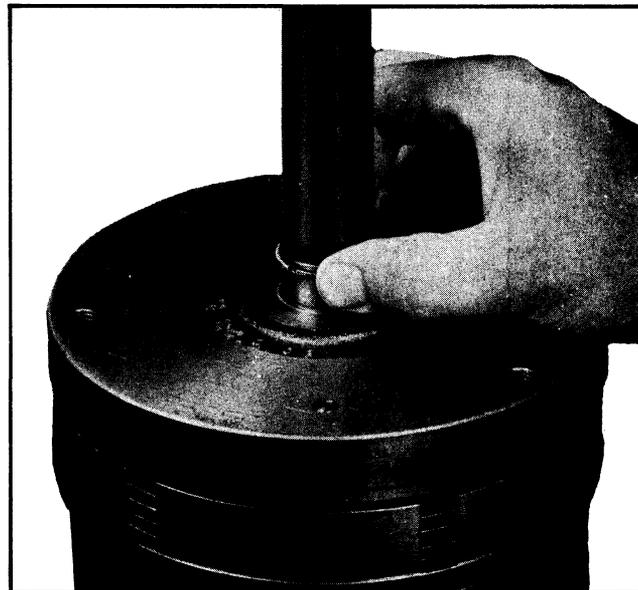

Fig. 3-55 Lock Type Oil Ring Removal
2. Unhook the lock type oil ring, then remove the ring from the intermediate shaft. (See Fig. 3-55)